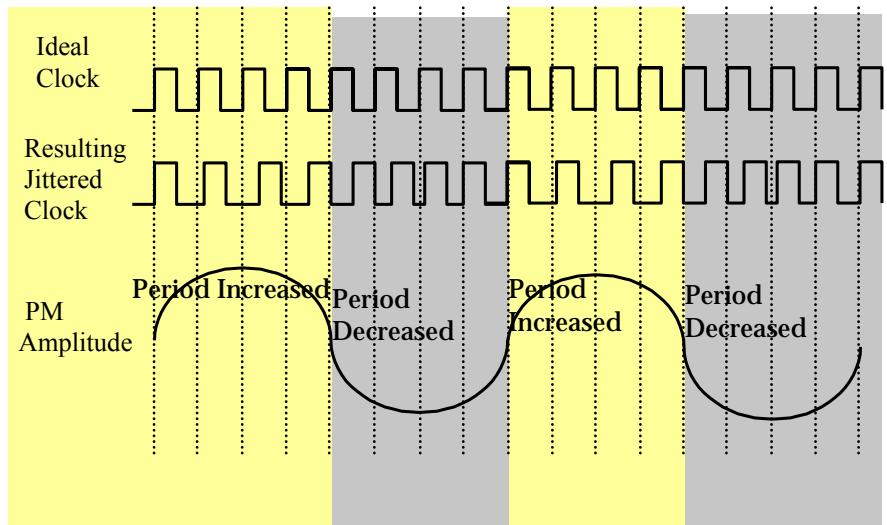

Figure 3 - Effect of a Periodic Sinusoidal Phase Modulation (PM) on a Clock.
To determine which span represents the largest pk-pk deviation, you must first determine which one corresponds to the worst-case modulation transition. Figure 3 shows the effect of a sinusoidal Phase Modulation (PM) on a clock or data signal. During the PM sine wave positive time, the modulation is lengthening the Resulting Jittered Clock periods. The accumulative affect of several longer than ideal periods is greatest at $\frac{1}{2}$ of the modulation cycle. After this point, the negative side of the PM sine wave will be shortening the resulting clock periods and thus you will be moving closer to ideal. Notice that after one cycle of the modulation, the positive deviations equal the negative deviations, and you are now back to your ideal clock bit position. From this example, it becomes obvious that it is important to randomly acquiring data to insure that the instruments trigger is not synchronous with the jitter.